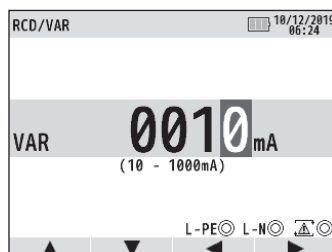

Fig. 11-9
- (4) The LCD shows current value changing screen (Fig. 11-9). Press F3(◀) or F4(▶) to select the digit to be changed and alter the values with F1(▲) or F2(▼).
- (5) Press ENTER to confirm the change. Then the screen returns to stand-by mode for RCD test.